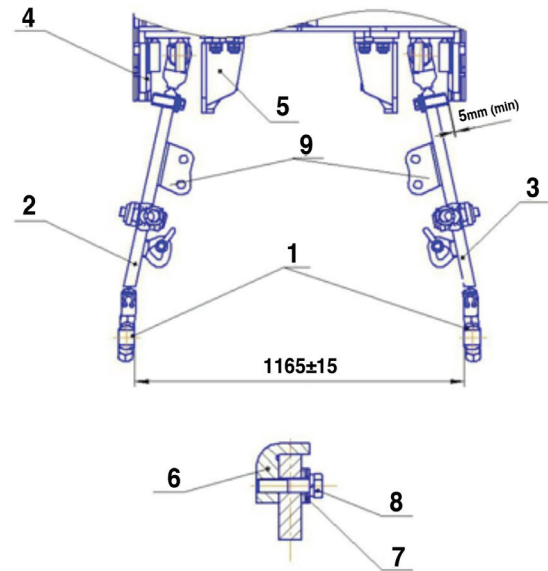

Fig. 105
Lower linkage rods (Fig. 105) are to be adjusted as follows:
- lift the linkage, providing for the distance of 1180...1280 mm from the supporting surface to the lower rods; in doing so, the rods 2 and 3 should be located between outer stop 4 and internal stop 5 (Fig. 105). Stops 744R3-46 28021-1, pos. 6, should be installed at the side of outer stops.